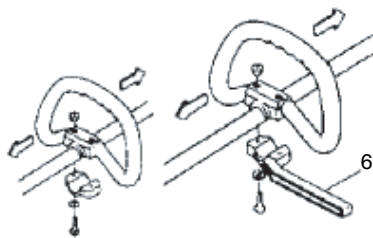

Fig. 3
When you use steel/rigid blades on straight shaft trimmers or brush cutters, always use a barrier bar (6) and shoulder harness with the loop handle. (Fig. 3)